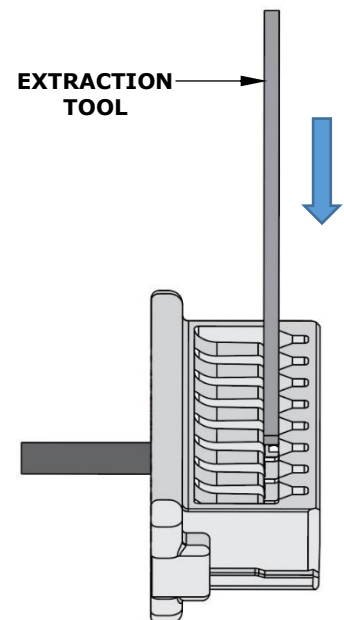

Figure 7
3. Press the tool in the direction of the arrow to depress the locking tang. See Figure 7.